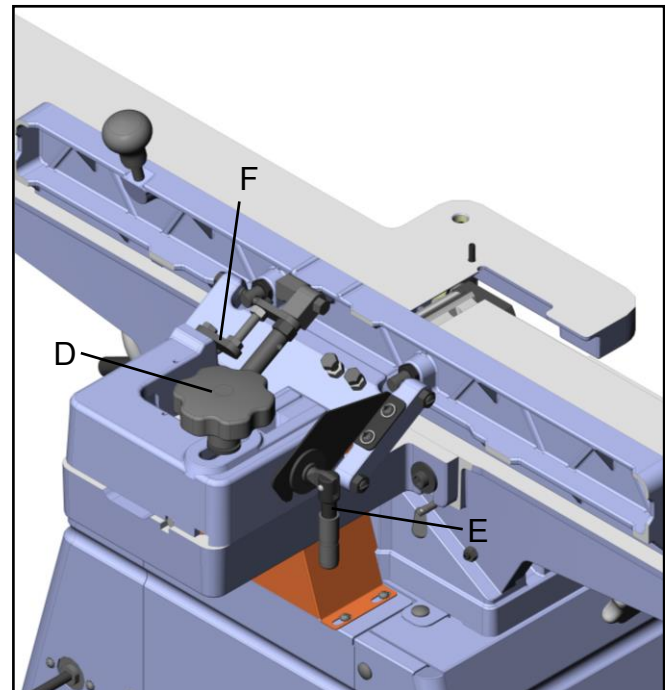

Fig. 8
Fence adjustments are made with the lock knob (D) shown in Fig. 8
1. Loosen locking handle (E), Fig. 8
2. Place a machinist protractor or triangle on the table and against the fence. Adjust the fence to the desired angle and tighten locking handle (E) to secure the fence.
2. Flip back the stop block (F).
3. Adjust the fence to the desired angle and tighten locking handle (E) to secure fence.
**NOTE:** The lock knob (D, Fig. 8) can be adjusted to a more convenient position by loosening the nuts on its opposite end, turning the handle to the proper position, and retightening the nuts.